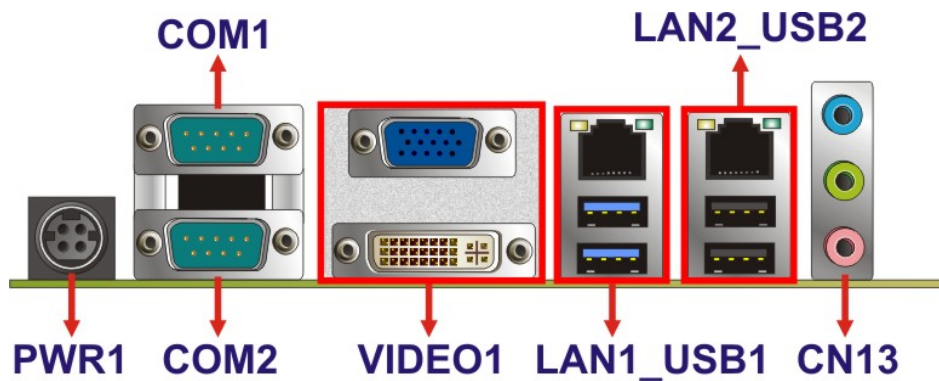

Figure 3-29: External Peripheral Interface Connector
**CN Location:** See **Figure 3-29**
- CN Location:** See **Figure 3-29**
- CN Location:** See Figure 3-29
- CN Location: See Figure 3-29
CN Location:	See Figure 3-29